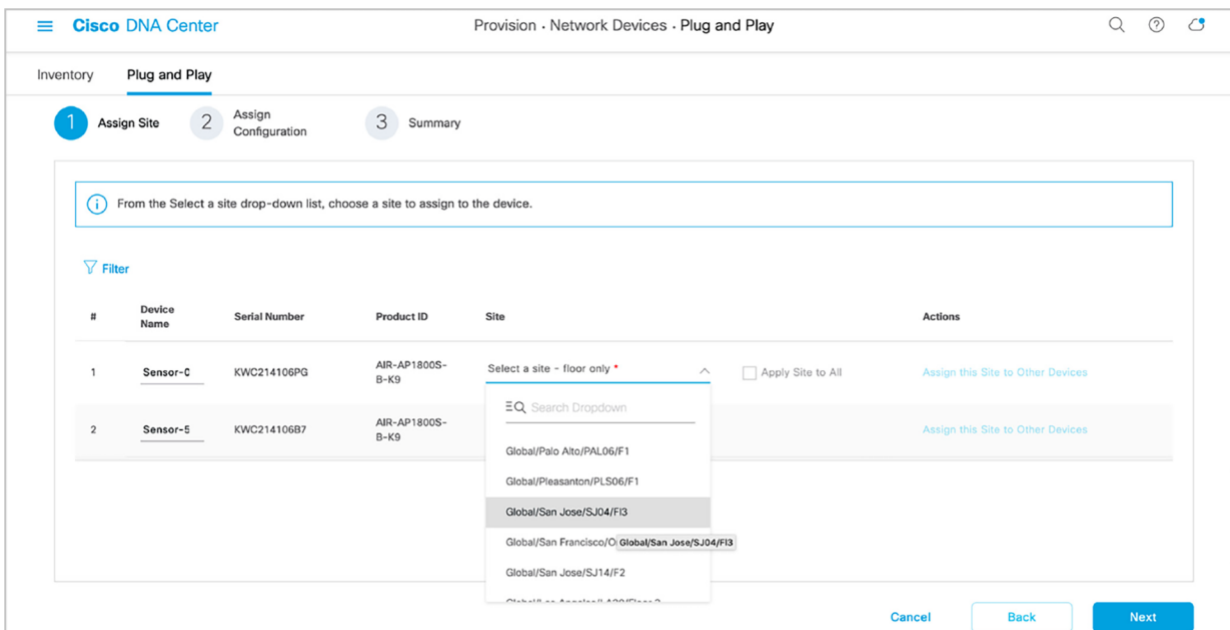

Figure 43.
- e. Select a site to claim the sensor (**Figure 43.**).